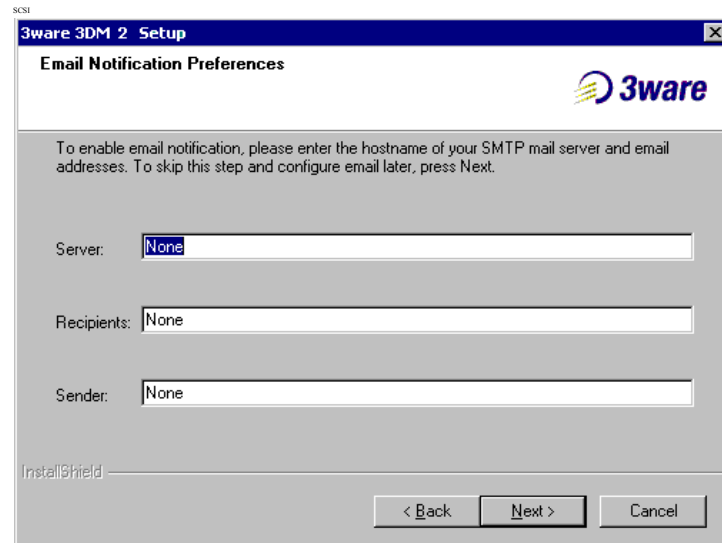

Figure 11. 3DM E-mail Notification Preferences
- 6 On the **E-mail Notification Preferences** screen (see Figure 11) use the fields to specify initial email settings.